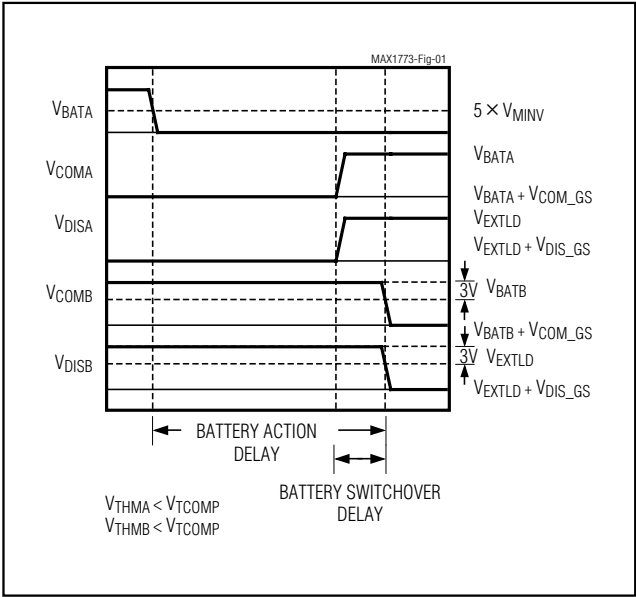

Figure 1. Battery Delay (Battery A to Battery B)
**Note 6:** Battery Switchover Delay starts when either VCOM\_ or VDIS\_ of the connected battery begins to rise and ends when both VCOM\_ and VDIS\_ of the other battery have fallen 3V below their sources (Figures 1 and 2).
**Note 7:** Battery Action Delay starts when the connected battery's voltage falls below 5 × VMINV and ends when both VCOM\_ and VDIS\_ of the other battery have fallen 3V below their sources (Figures 1 and 2).